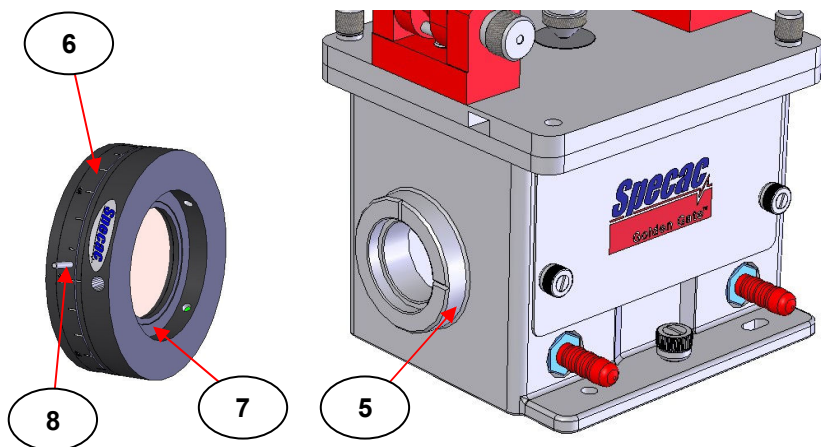

Fig 4. Fitting of GS12510 Series Rotator Mount to Aperture Port of Optical Unit (Example - Heated Golden Gate™ Accessory)
As shown in **Fig 2.** and **Fig 3.** the circular recessed part (7) of the rear view face of the rotator mount (1) fits over the protruding “boss” circular ring of the aperture port (5) on the optical unit. It does not matter which aperture port of the optical unit is used for attachment of the rotator mount (1) with respect to an IR beam direction through the spectrometers sample compartment from source to detector, as the polarizing effect is the same before or after the polarized light has passed through any sample. (See **Fig 4.**)